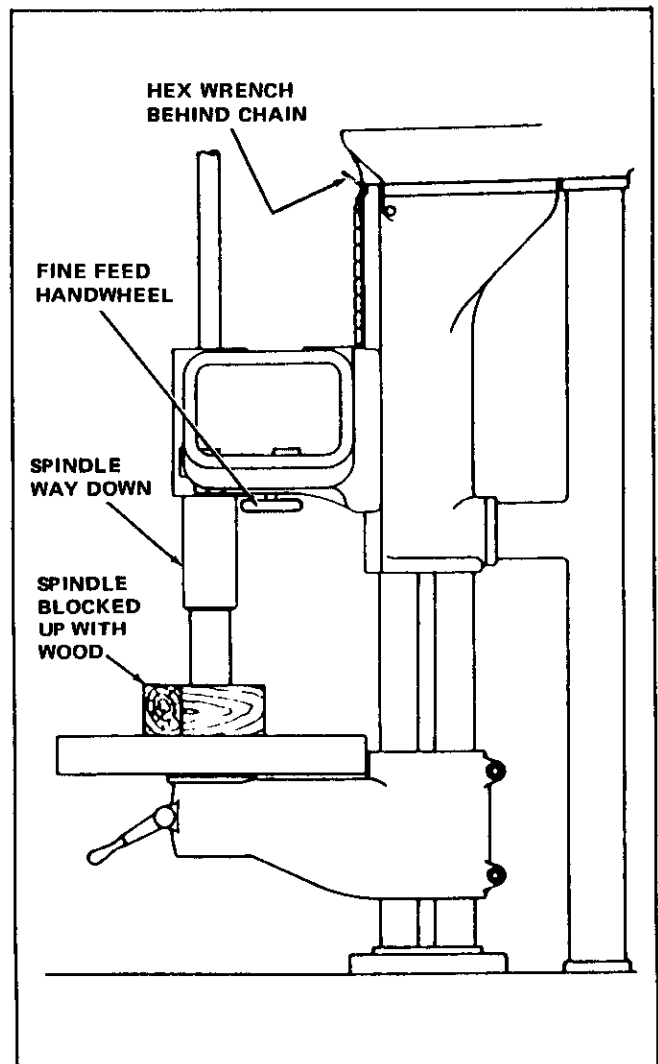

Figure M-4. Blocking Up Sliding Head
Cross Spindle And Spindle Removal (Figures M-4, M-5 and M-6)
4. Insert a 3/16" hex wrench (the type used for hollow head set screws) through the counter-weight chain directly above the sliding head with the short leg of the wrench pointing down behind the chain and the long leg lying horizontal, pointing at the spindle (Figure M-4).
7. Block up the spindle and sleeve with wooden blocking built up from the table (Figure M-4).